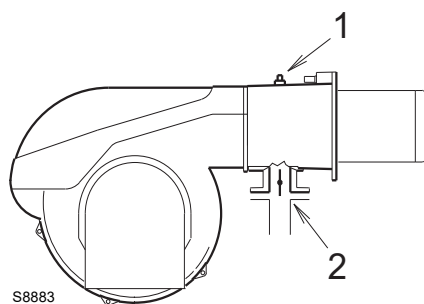

Fig. 25
Gas pressure measured at test point 1)(Fig. 25), with:
Pressure drop at gas butterfly valve 2)(Fig. 25) with maximum opening: 90°.
- subtract the combustion chamber pressure from the gas pressure measured at test point 1)(Fig. 25).
- Gas pressure at test point 1)(Fig. 25) = 8 mbar
To calculate the required gas pressure at test point 1)(Fig. 25), set the maximum modulating output required from the burner operation:
- Read, on the right (column 1), the pressure at the test point 1)(Fig. 25).
pressure required at test point 1)(Fig. 25).